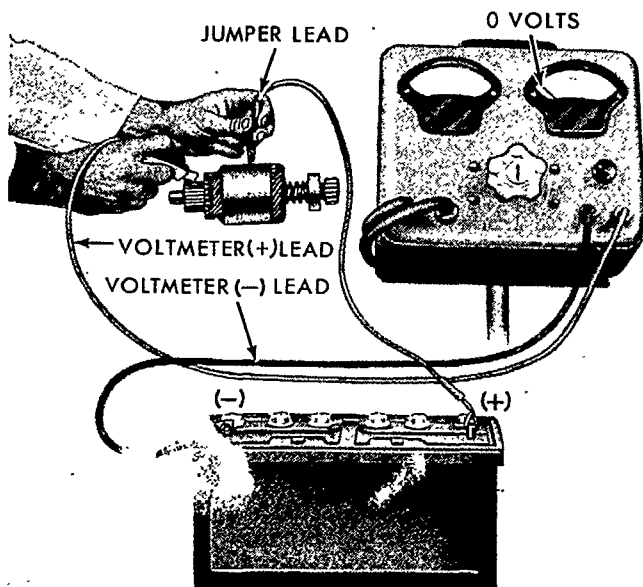

Figure 35
1. $4\frac{1}{2}$ -Inch Starting Motor: Complete steps 1 through 7 of the disassembly procedure, page 32, and refer to Figure 35 when performing the test.